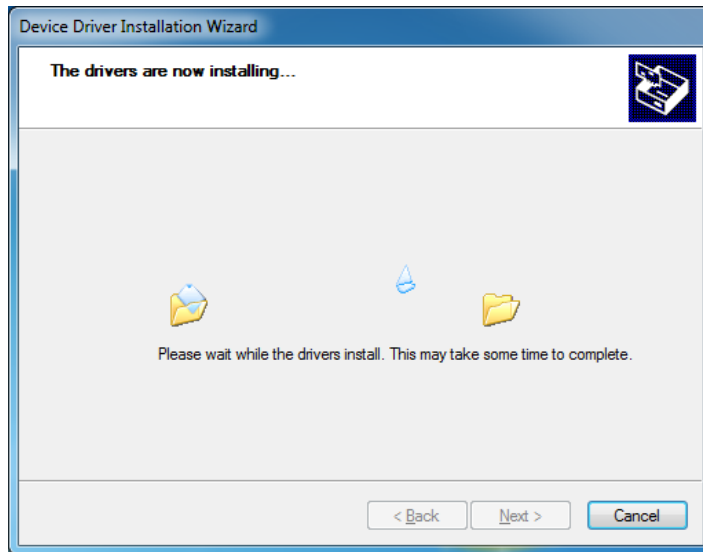

Figure 3-4: Driver Installing
**Step 7:** The driver starts to install and the screen in **Figure 3-4** appears.